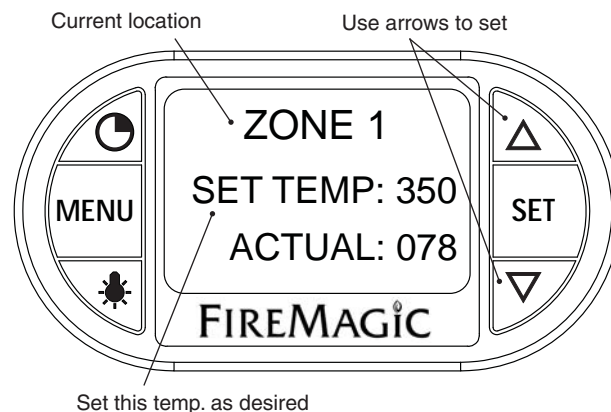

Fig. 24-1 Area temp. screen (zone 1 shown)
2. The selected location's temperature screen will be displayed. Use the arrows to set the desired temp. The actual temp. will also be shown. See Fig. 24-1.